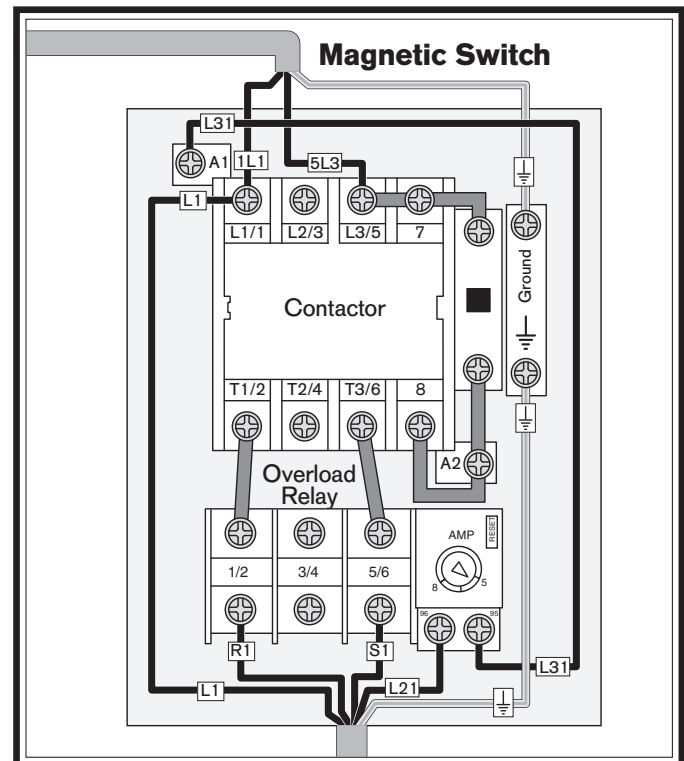

Figure 5. Magnetic switch contactor wire connections.
3. Open the magnetic switch box and record the connection locations of the: **L1, L2, R1, S1, L31**, and both grounding wires (see **Figure 5**), then remove these wires from their connections.
5. Re-install the strain reliefs and cables on the 220V replacement magnetic switch box, connect the wires as recorded in **Step 3** (see **Figure 5**), then close the switch box and remount it.